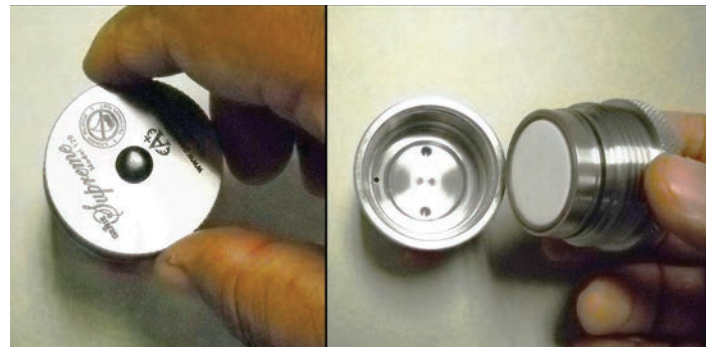

Figure 62: Removing the filter cap
2. Turn the filter cap counter-clockwise (see *Figure 62* below). You might need to use a channel-lock wrench to assist in loosening the cap.